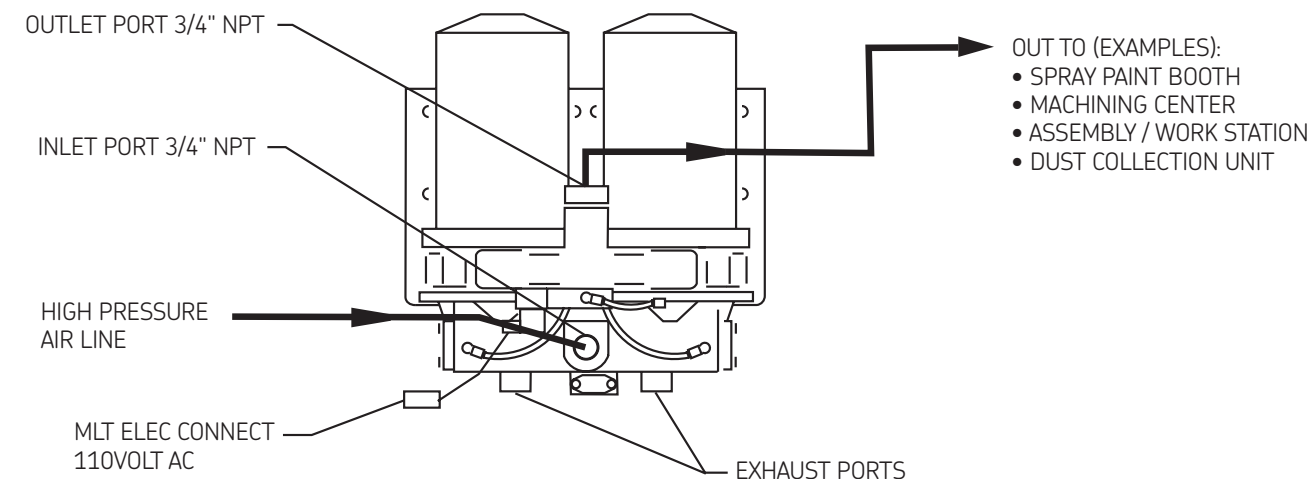

Figure 1: Air Connection Schematic
1. The SFD must be mounted with the exhaust ports positioned downward (ref. Figure 1, Pg. 7).
3. Mount SFD down stream of air compressor reservoir (ref. Figure 1, Pg 7).
1. Connect high pressure air line (175 psig max.) to SFD inlet port (ref. Figure 1, Pg 7).
2. Connect SFD outlet port to system air line (ref. Figure 1, Pg 7).